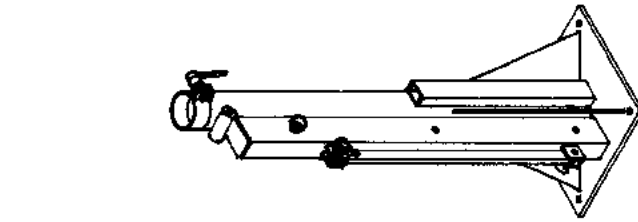

FIGURE 1
STEP 1 - REMOVE ITEMS FROM SHORT BOX (FIGURE 1) AND ITEMS FROM LONG BOX (FIGURE 2).
STEP 2 - SEPARATE ITEMS BANDED TOGETHER: (A) BASE, (B) UPPER BODY, (C) PRIMARY ARM, (D) SECONDARY ARM, (E) MOUNTING CHANNELS, (F) SUPPORT BAR.